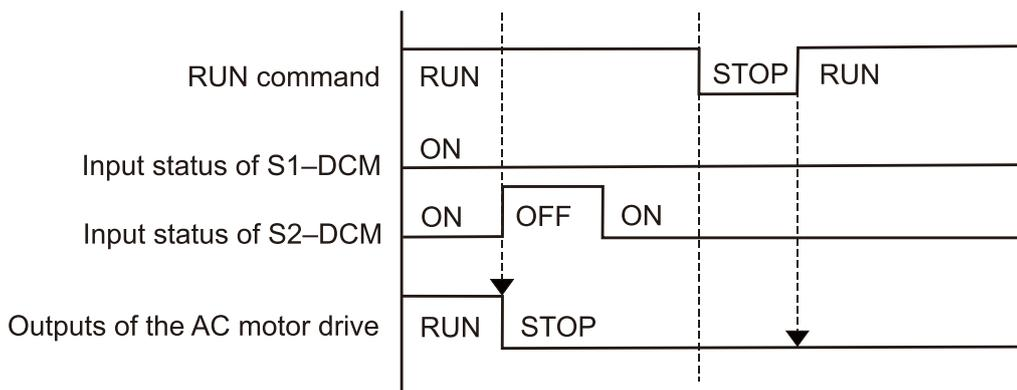

Figure 17-9
As shown in Figure 17-9, when S1-DCM is ON during operation (STO function is not required) and S2-DCM is OFF (STO function is required), the drive stops outputting and the keypad shows the STL2 error. However, you cannot reset the STL2 error even if the S2 status is restored (ON) regardless of the parameter setting. You must cycle the power to reset and to restore the drive to the normal standby state.